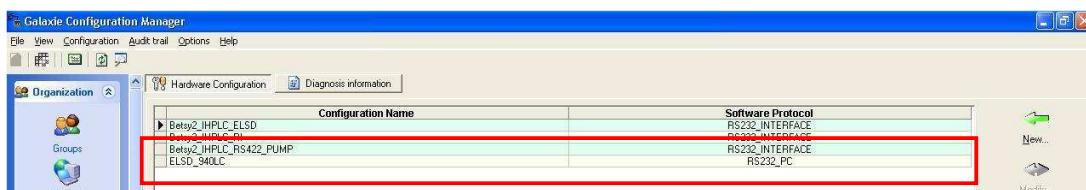

Figure 4: ELSD Comms Config Layer
4. Click **OK** and this will insert the layer into the Galaxie configuration manager (Fig 4).